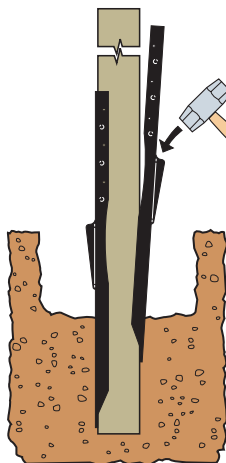

Fig. 1
- **For dirt:** Drive the mender plate down along the post between the post and the dirt. Repeat on the other side. (Fig. 1)